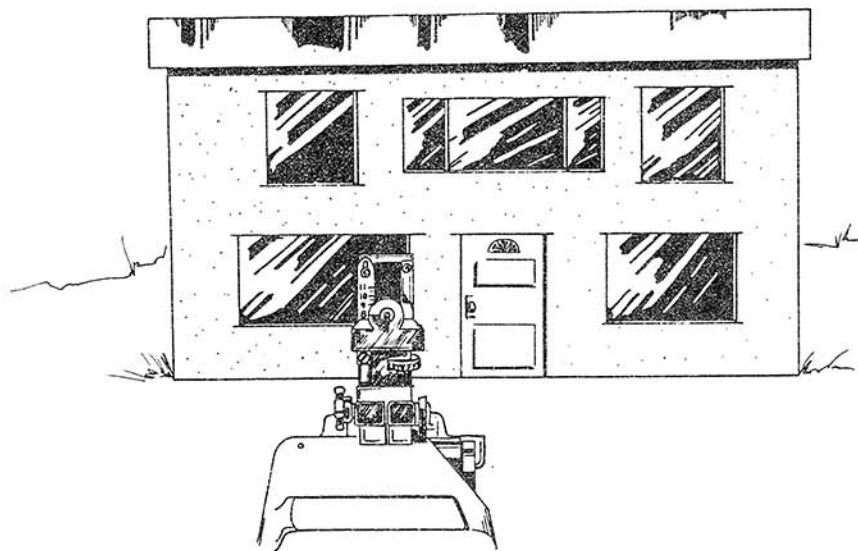
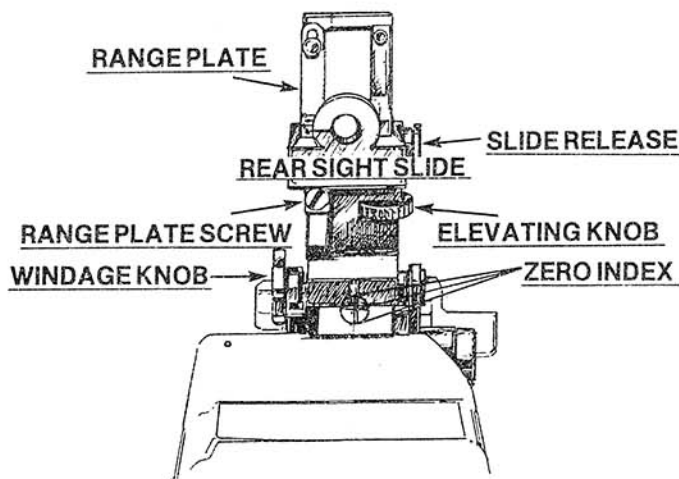
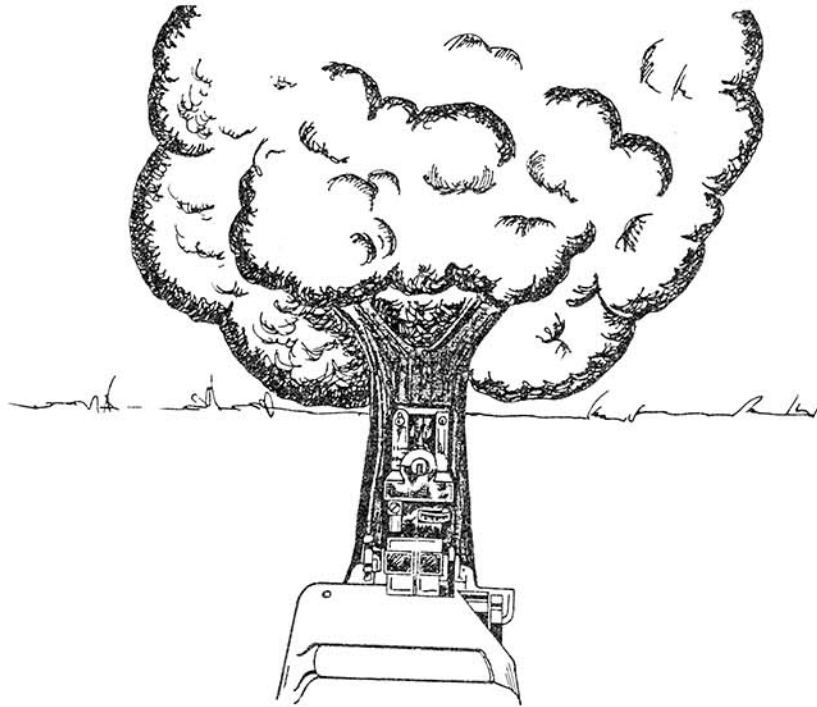
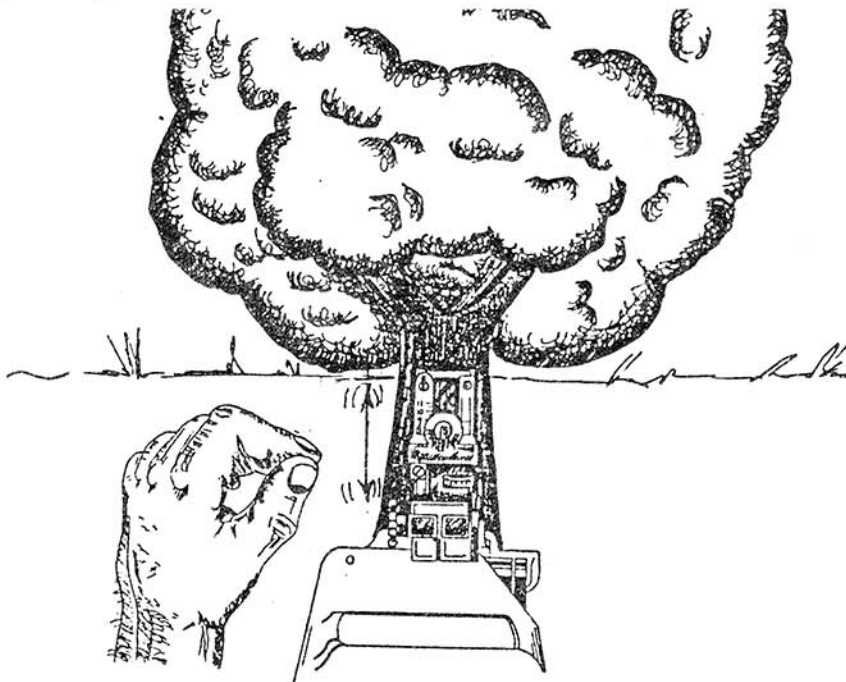

Figure 2-4. — Adjusted Sight Picture.
Figure 2-5. — Elevation/Windage Knob.
Figure 2-6. — Corrected Sight Picture.
Figure 2-7. — Adjusting Range Plate.
Notice, in Figure 2-4, that the rear sight is still set on a range of 800, but the sight is not aimed at the target (tree) because the gunner moved the weapon so the rounds hit the target. The gunner directs the team leader to turn the elevation and windage knobs (Figure 2-5) until the gunner again has a good sight picture on the target (Figure 2-6). The gunner does NOT move the T&E mechanism.
The sight picture is on our target, but notice that the range on the sight is 900 meters instead of the squad leader's estimate range of 800 meters (Figure 2-6). The final step in field zeroing will be to correct this estimate.
4. Adjustment of the Range Plate. To correct the range on the range plate on the sight, the team leader loosens the range plate screw (Figure 2-5) and moves the range plate up or down until the original range is on the rear sight (Figure 2-7).